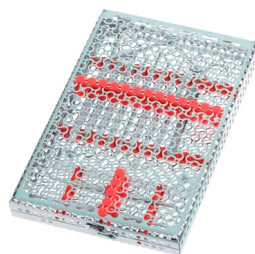

Fig. 14
- 4) Press and hold the button corresponding to the metering pump you wish to activate to manually load the hydraulic system: key 1 on the touch screen for pump 1, key 2 on the touch screen for pump 2 and key 3 on the touch screen for pump 3.
- 5) Wait a few seconds to see in the lower right part, the area where the chemical inlet holes (3 Fig. 14) are present, a constant flow free from air bubbles.